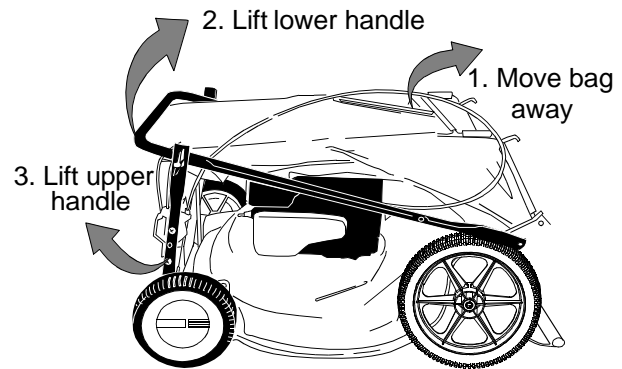

Figure 2
- Tighten the wing nuts between the upper handle and the lower handle (carriage bolts must be seated properly into the handle). See Figure 2.